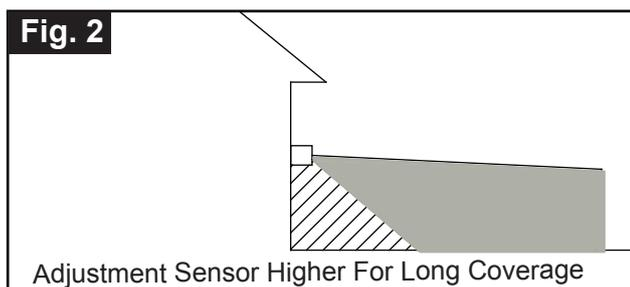
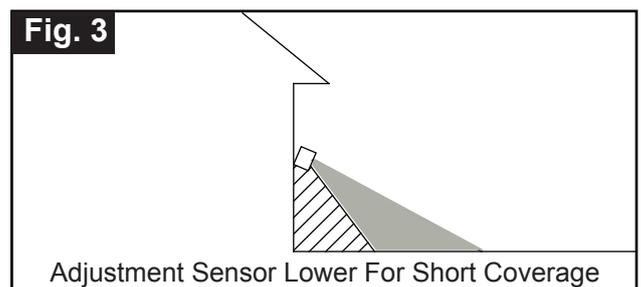

Fig. 2
Fig. 3
2. You can move the sensor head up and down to change the coverage area. (See Fig. 2) Walk through the detection zone at the farthest distance you wish to detect motion.
(See Fig. 2 and Fig. 3 )